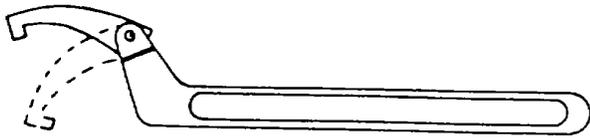

Figure 4-39. Adjustable Hook Spanner Wrench
(2) *Adjustable spanner wrench.* Solid spanner wrenches are sized for specific sizes of nuts. The adjustable spanner wrench, shown in figure 4-39, has a pivoting end which allows the wrench to fit several nut sizes. The type of wrench shown is a hook spanner, and is used the same way as the solid hook spanner.